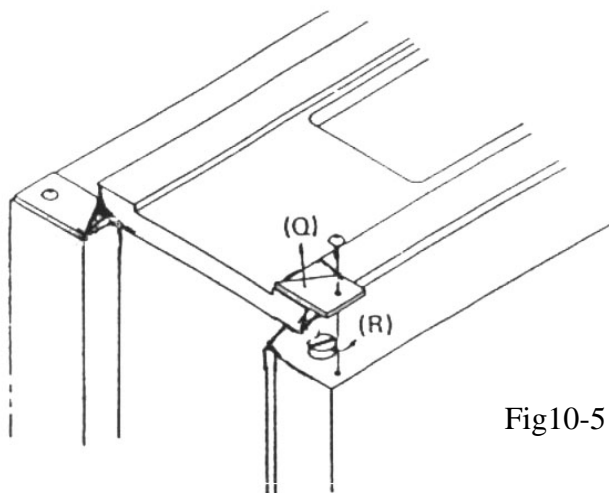

Fig10-5
10.2.3 Adjustment of knee gib (vide Fig.10-5):